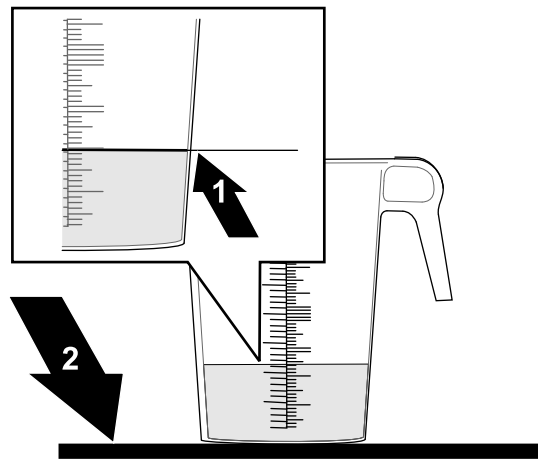

Figure 172
1. Set the graduated container on a level surface, allow the fluid to settle, and note the fluid volume (Figure 172).